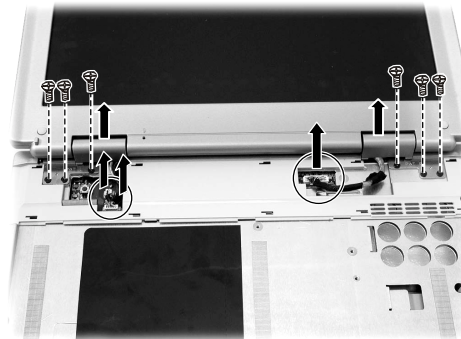

Figure 2-16 Remove the LCD assembly
3. Remove the two hinge covers and disconnect the LCD cables from the system board. (Figure 2-16)
3. Remove six screws fastening the LCD assembly. Now you can separate the LCD assembly from the base unit. (Figure 2-16)